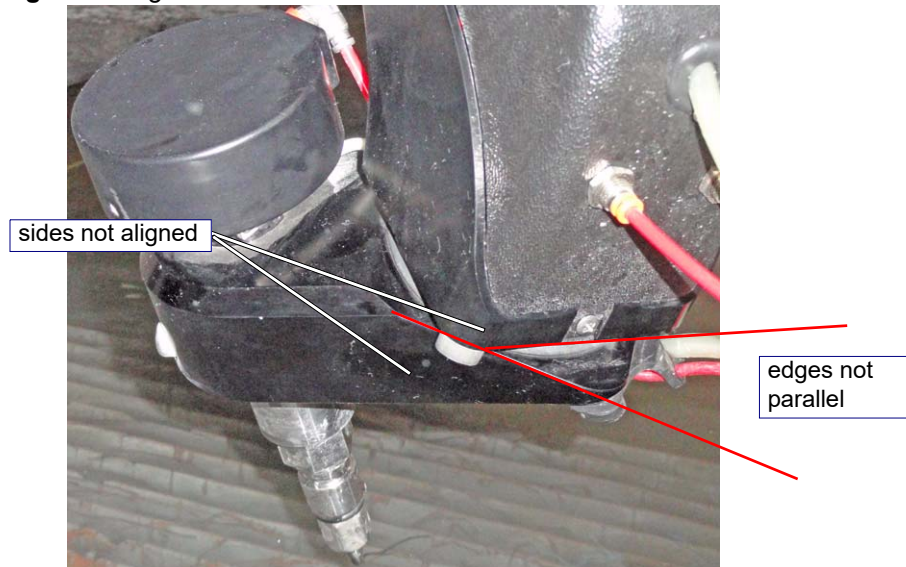

Figure 13
- b. When the **A-Jet** has the incorrect **tilt axis step value** entered, the sides of both the top and **bottom surfaces** will not be aligned flush, and the **top edge** will not be parallel to the **bottom edge**. See Figure 13.
8. If your **A-Jet** matches the alignment illustrated in Figure 13, the wrong **tilt axis step** value has been entered. You must re-enter the alternative value (2000 or 3333) and repeat this test to obtain the expected results. You should also verify perpendicularity calibration settings are correct. See Calibrate Tilt option, Figure 18, page 9.